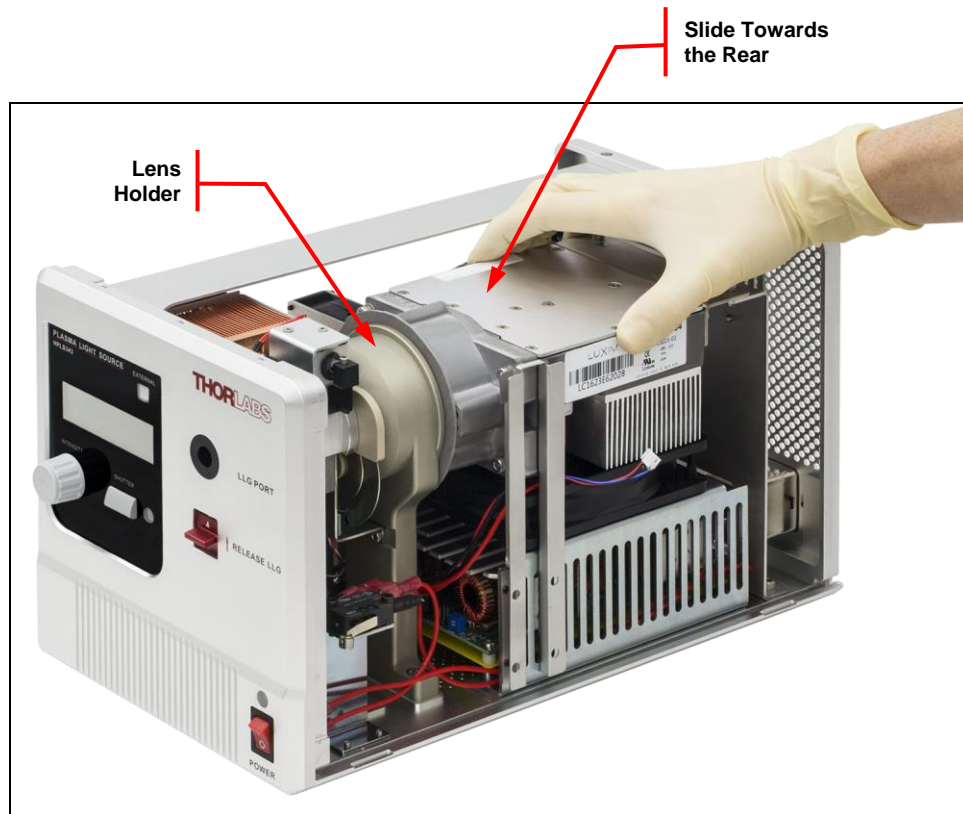

Figure 22 Disconnect the Bulb Module with the Lens Holder
3. As shown in Figure 22, slide the bulb module forward so the lens holder inside the light source is firmly inserted in the front opening of the bulb module.